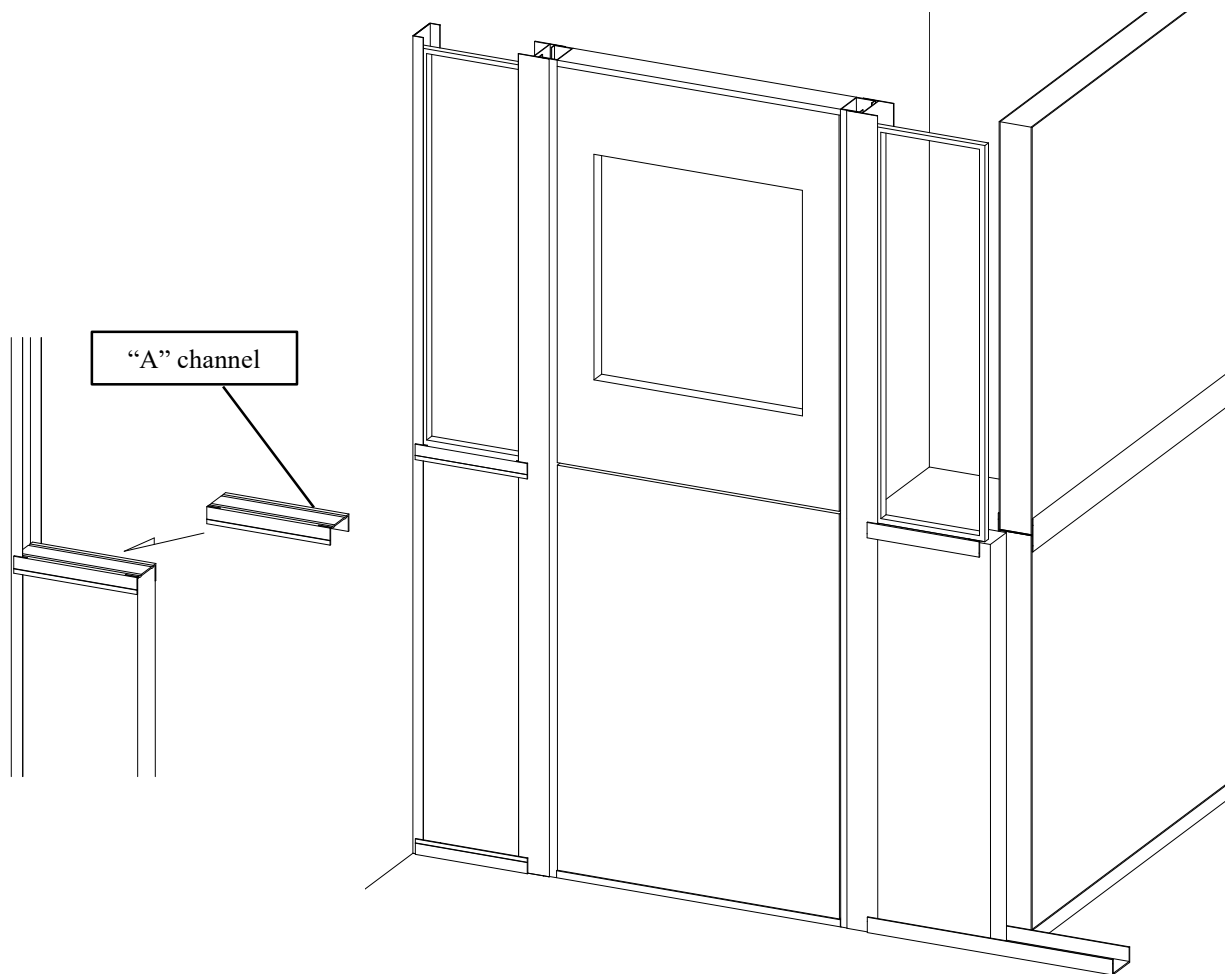

Figure 29
14. Place an “A” channel onto the filler panel you installed in step 13. Place the correct window onto the “A” channel and into the “D” channel. See figure 29.